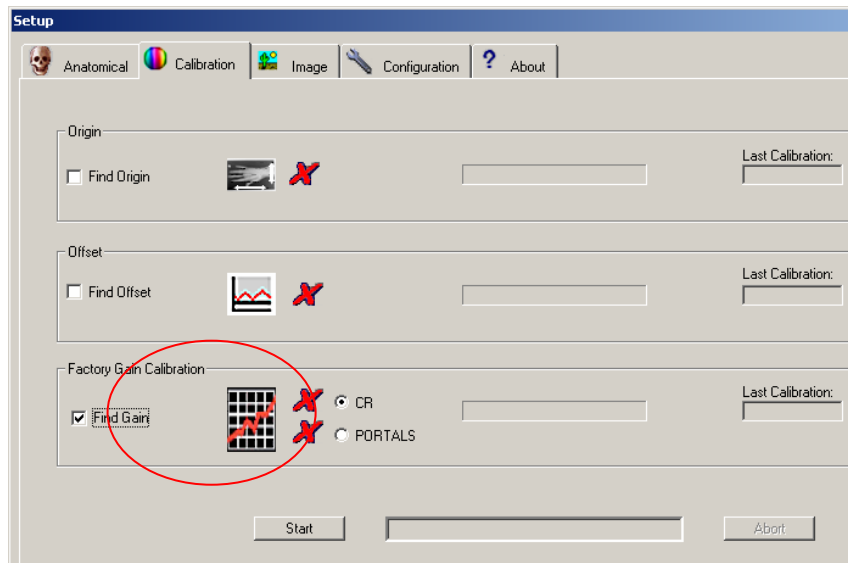

Figure 30: Factory Gain Calibration
6. In the calibration tab of the scanner interface, check the *Find Gain* box (Figure 30), and verify that the radio button CR is selected, then click **Start** to initiate the calibration process.